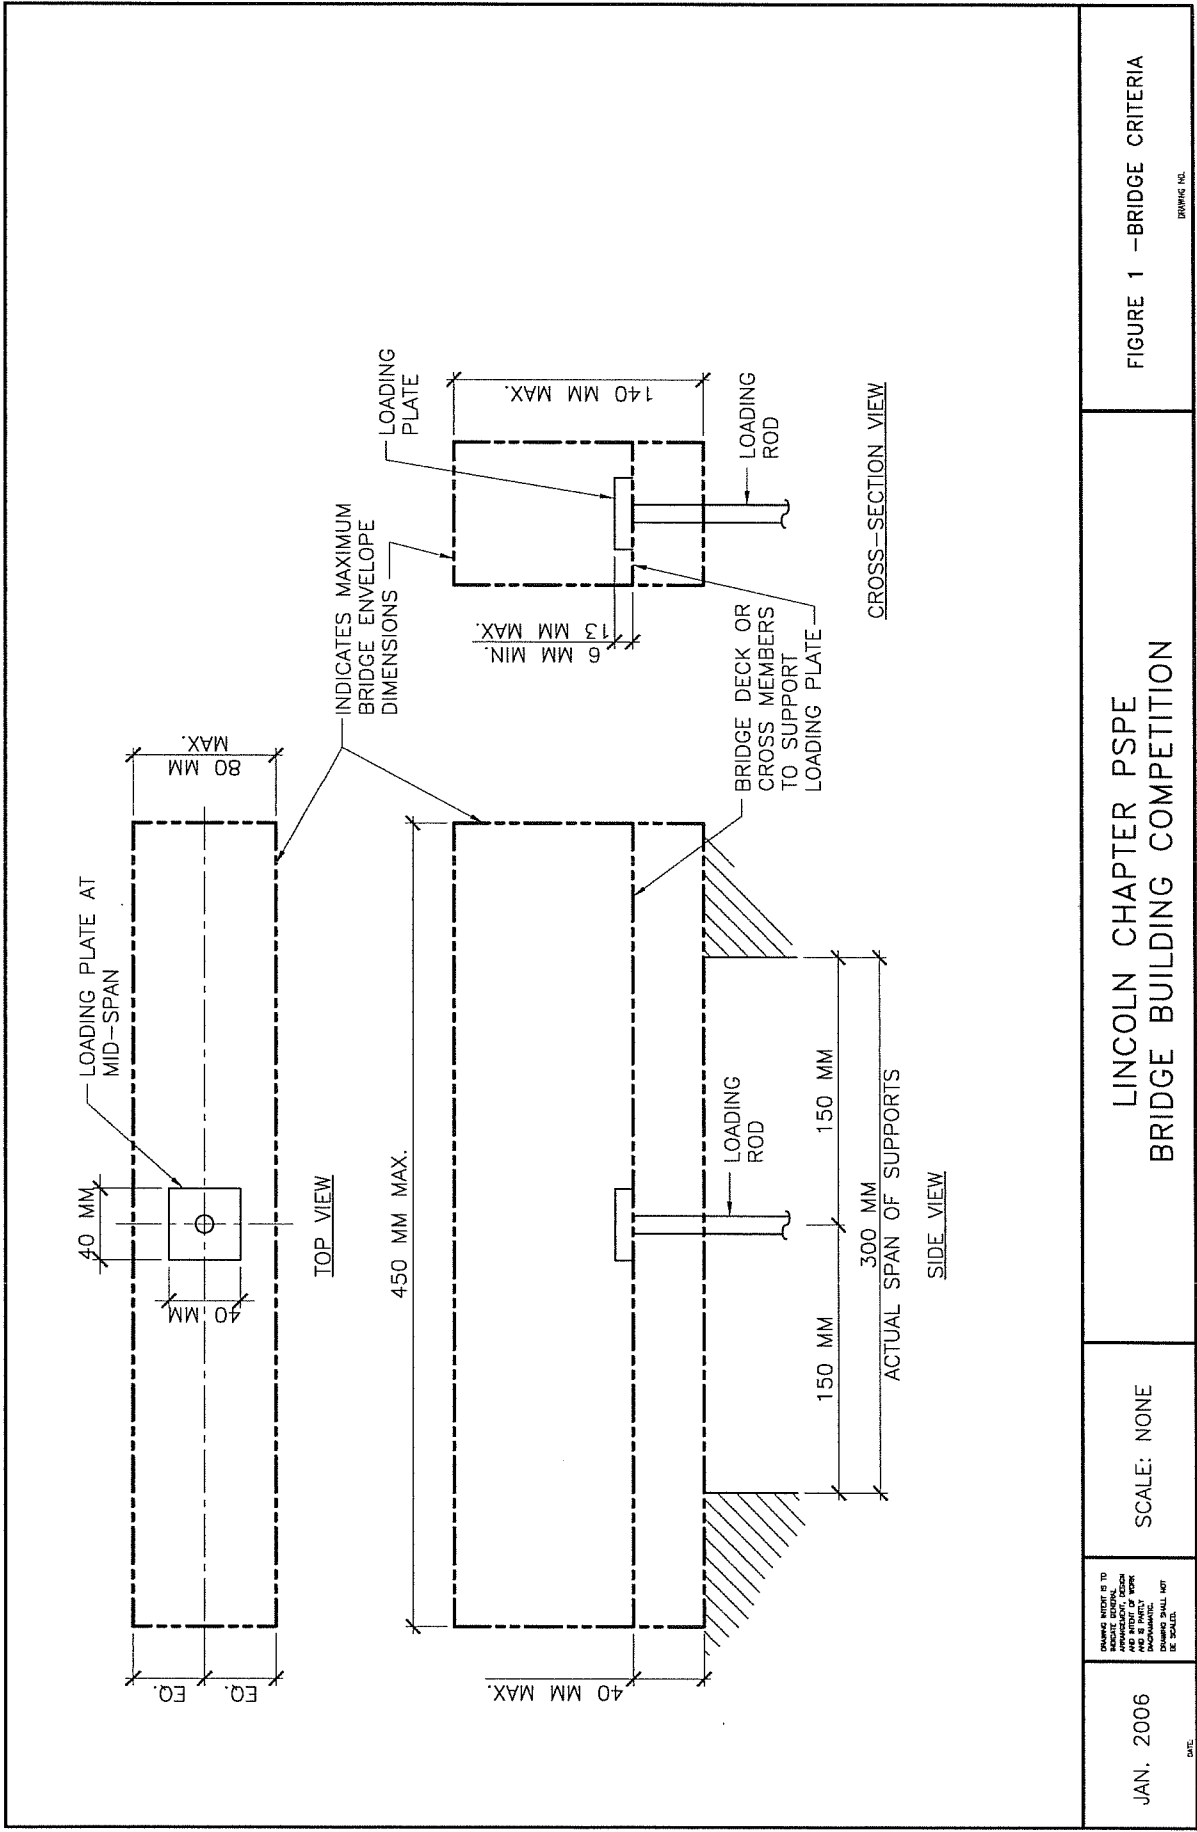

FIGURE 1 --BRIDGE CRITERIA
3. Construction – See Figure 1
Attachment: Figure 1